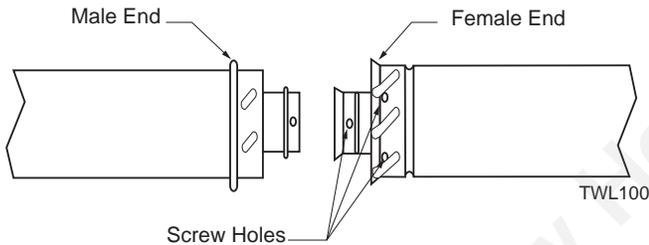

Figure 18 – Twist-lock Pipe Joints
To join twist lock pipes together, simply align the beads of the male end with the grooves of the female end, twisting the pipe until the flange on the female end contacts external flange on the male end. It is recommended that you secure the joints with three (3) sheet metal screws, however, this is not mandatory with twist lock pipe. *Figure 18*